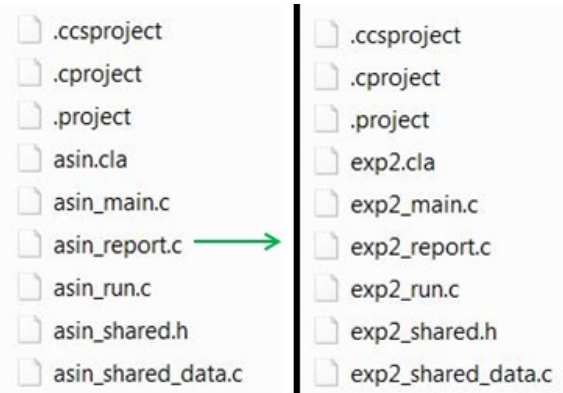

Figure 5.4: Creating a new project from existing examples
- Rename all files `atan*.*` to `exp2*.*`. (Notice the naming convention. All files have the test folder name as a prefix, see Fig. 5.4 below)